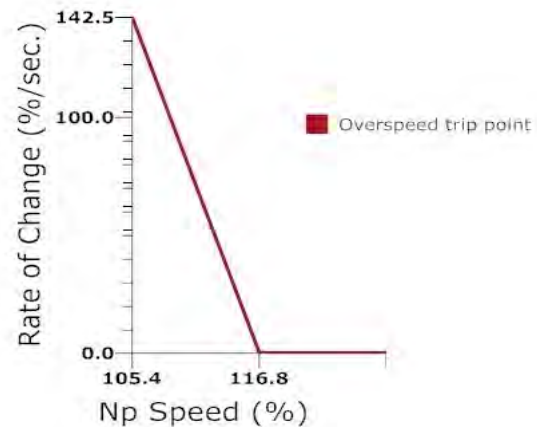

Figure 96- 80: Np Overspeed Trip Point
FADEC/ECU Np overspeed has two conditions to meet in order to declare an overspeed event: (1) When Np exceeds 105.4% rpm and (2) % rpm is higher than the set speed for specific rate of change. This is defined by a linear relationship between the Np speed and the rate of change; where the Np speed is 116.8% - rate of change is zero and when the Np speed is 105.4% - rate of change is 142.5 % per second. See Figure 96- 80. Once the overspeed event is no longer present, the annunciator will extinguish and the incident will be recorded on the ECU.